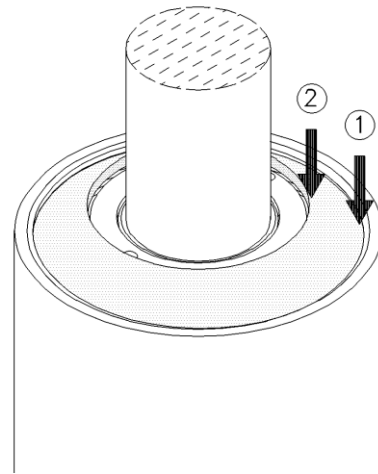

Figure 6-44; Mounting of the gasket
The easiest way to mount the gasket reservoir tube seal is to first place the outer edge in the tube (1). Then press in the inner edge (2) (Figure 6-44).